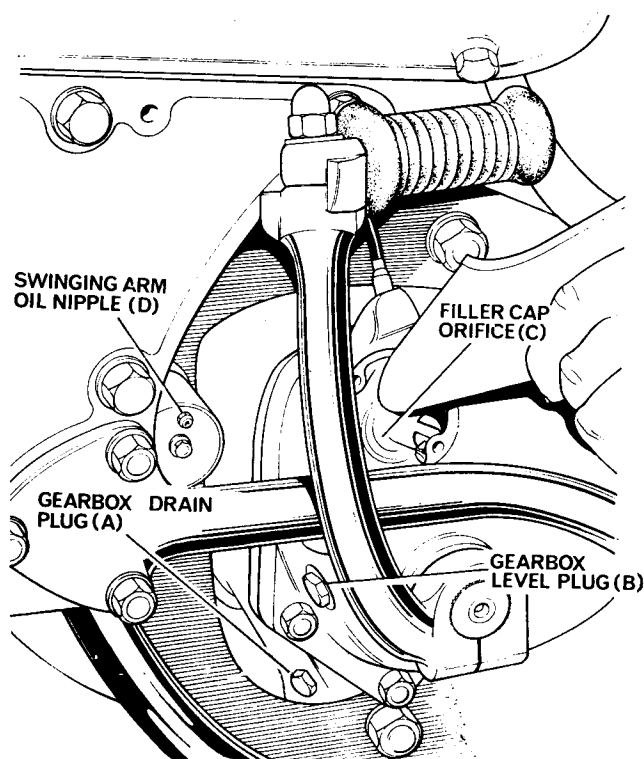

Fig. K6 Gearbox drain and level plugs
An oil level plug is fitted in the gearbox cover (see *Fig. K6*).
To check level, remove plug (see *Fig. K6*, item B) whereupon oil should seep gently out if level is correct. If topping up is necessary, remove the filler cap (see *Fig. K6*, item C) and replenish with correct grade of oil until the oil begins to seep from the level plug orifice. Replace the filler cap and the level plug.
The gearbox oil should be changed after a run so that the warm oil flows more freely (see *Fig. K6*). Remove the filler cap and drain plug (A) and drain the oil into a suitable container. Replace the drain plug and fill the gearbox through the filler cap orifice (C). Allow time for oil to pass through the inner cover into the shell. When the level plug is removed, oil should run from the level plug hole (B). Allow the surplus oil to drain off and replace the level plug and filler cap. If this method is not followed a false level indication will be gained.